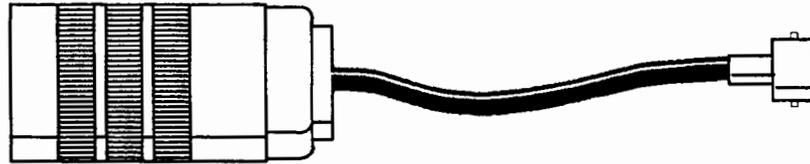

Figure 1-2 — Voltage Adapter
- **Voltage Adapter** (Tektronix part number 015-0598-00)—used by service personnel during instrument calibration. When using the Voltage Adapter, the input impedance of each channel is 50 Ω . (See Fig. 1-2.)